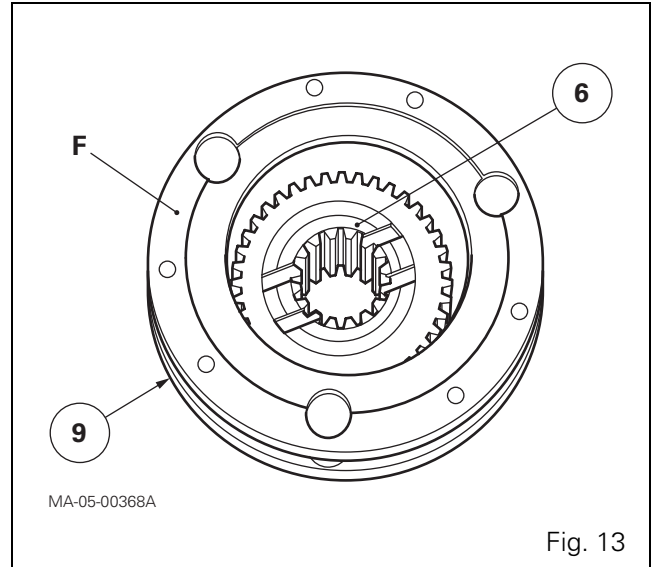

Fig. 13
32. Put the output sun gear (6) in the unit (9), turning the sun gear lubricating grooves towards face "F" of the unit (Fig. 13).
33. Install the needle roller bearings (16), separated by a spacer (14) in a planet gear (12).